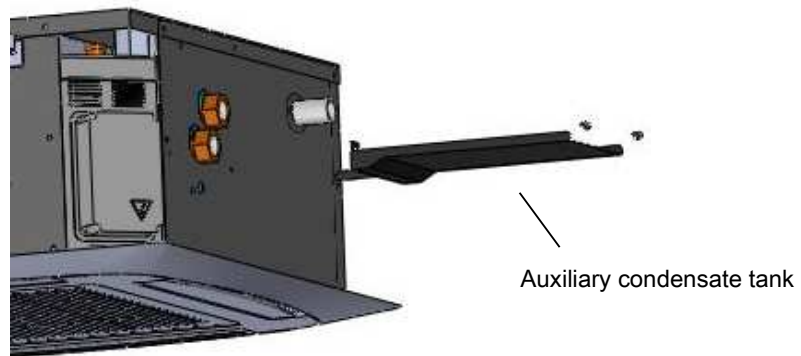

Figure 8
- Align the two screw holes in the fixing plate to the two holes in the external drain pan. (Figure 8)